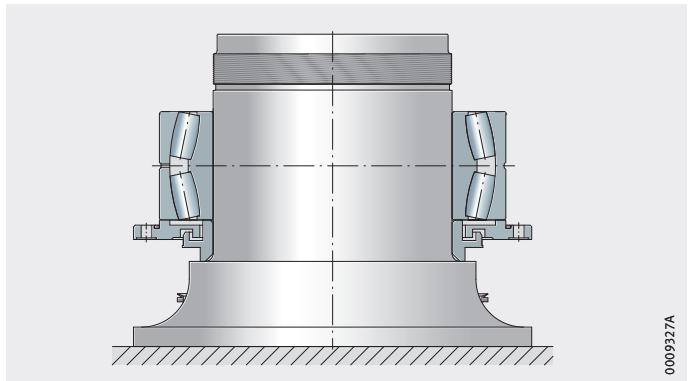

Figure 11
- ▶ Slide the heated spherical roller bearing onto the shaft using a suitable lifting device until it reaches the labyrinth ring, *Figure 11*. While it is being moved into place, the inner ring must remain aligned precisely parallel to the shaft, in order to prevent tilting of the inner ring relative to the shaft. If there is a risk of jamming, remove the bearing immediately and heat it again.